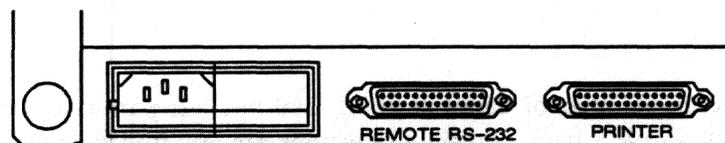

Figure 14-2 The printer connector is a 25-pin male connector.
There is a separate male RS-232/V.24 Printer connector on the rear of the INTERVIEW (see Figure 14-2). The Printer connector is a DCE interface: it transmits to the printer on Pin 3 (RD) and applies ON voltage (+12 V) on Pins 5 (CTS), 6 (DSR), and 8 (CD). It monitors Pin 20 (DTR). When DTR goes OFF, the INTERVIEW stops transmitting on Pin 3. When DTR comes back ON, the INTERVIEW resumes transmitting. Information can be transmitted asynchronously in 7 or 8 bit ASCII code, with selectable parity.